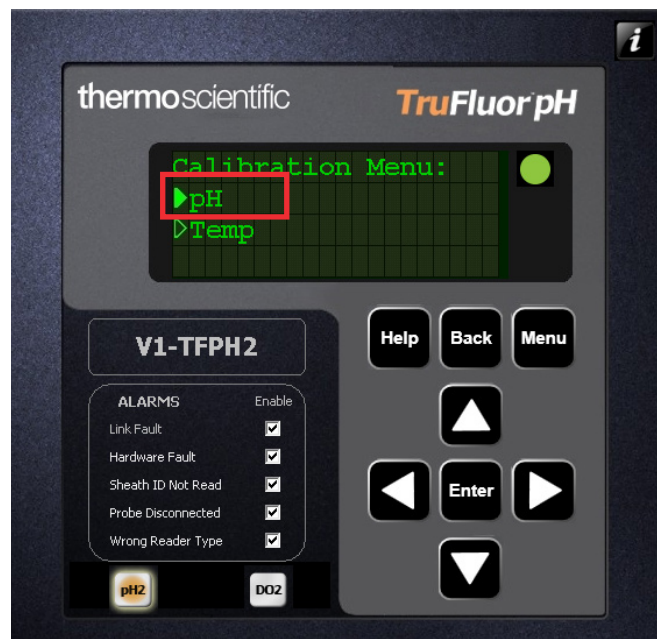

Figure C.4. Selecting "pH" from Calibration Menu.
3. Navigate to **pH** (Figure C.4), and click **Enter**.